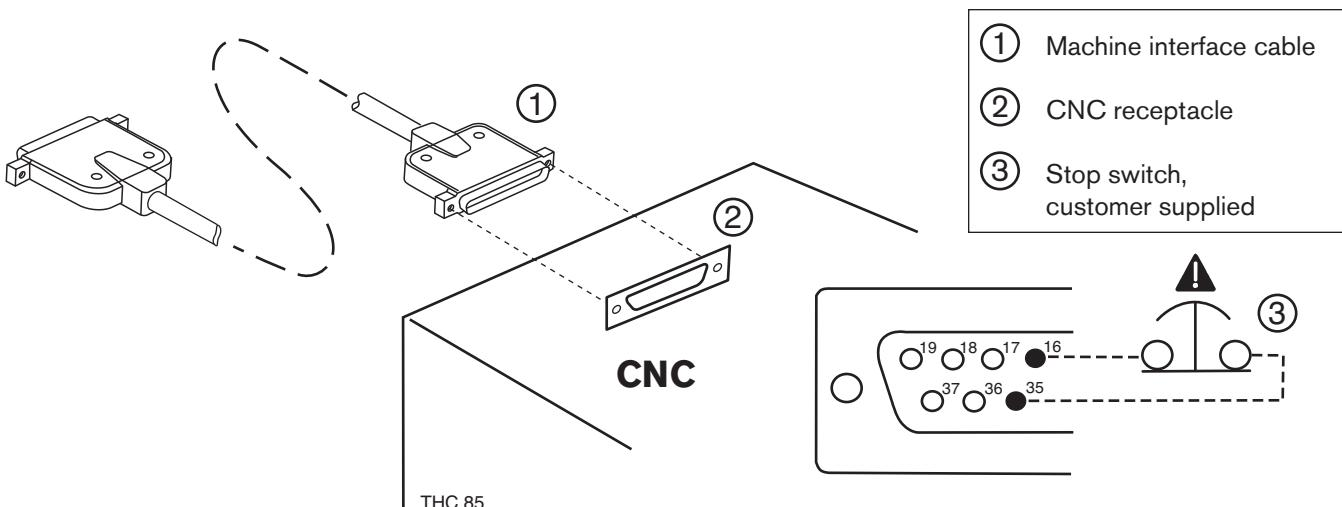

Figure 3-10 CNC emergency stop signal
2. Emergency stop signal – See Figure 3-10.